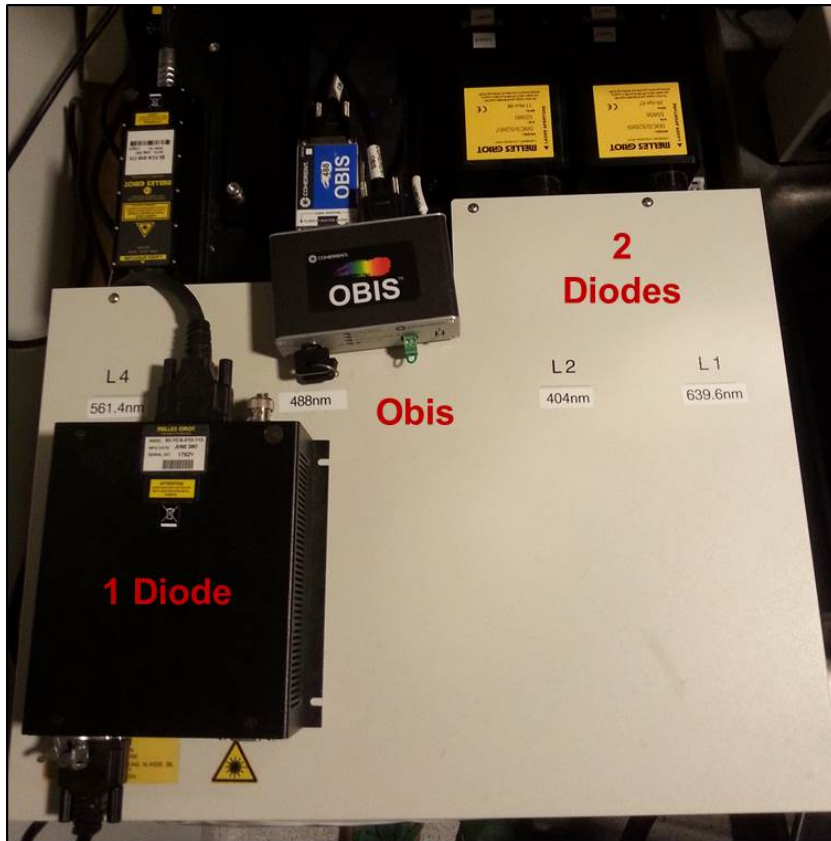

Figure 2: Available Lasers.
2. Turn on the **lasers** that you will use (Figure 2).